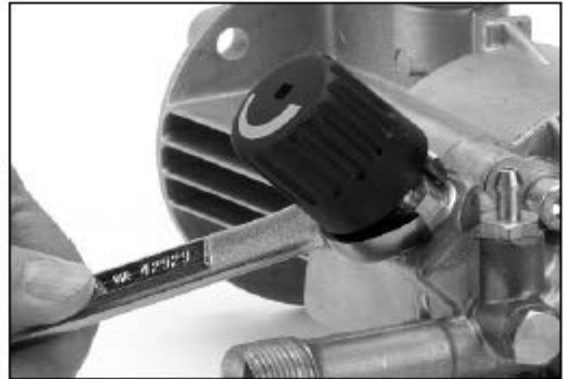

figure 2
1) Unscrew pressure volume control assembly. (shown in figure 2)